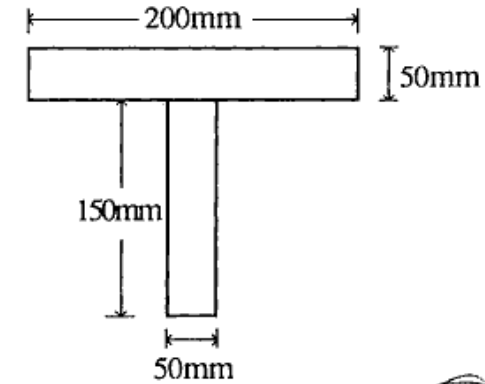

Figure 1
8. A shearing force of 180 kN act over a T-section shown in figure 1. Draw the shear stress distribution curve.